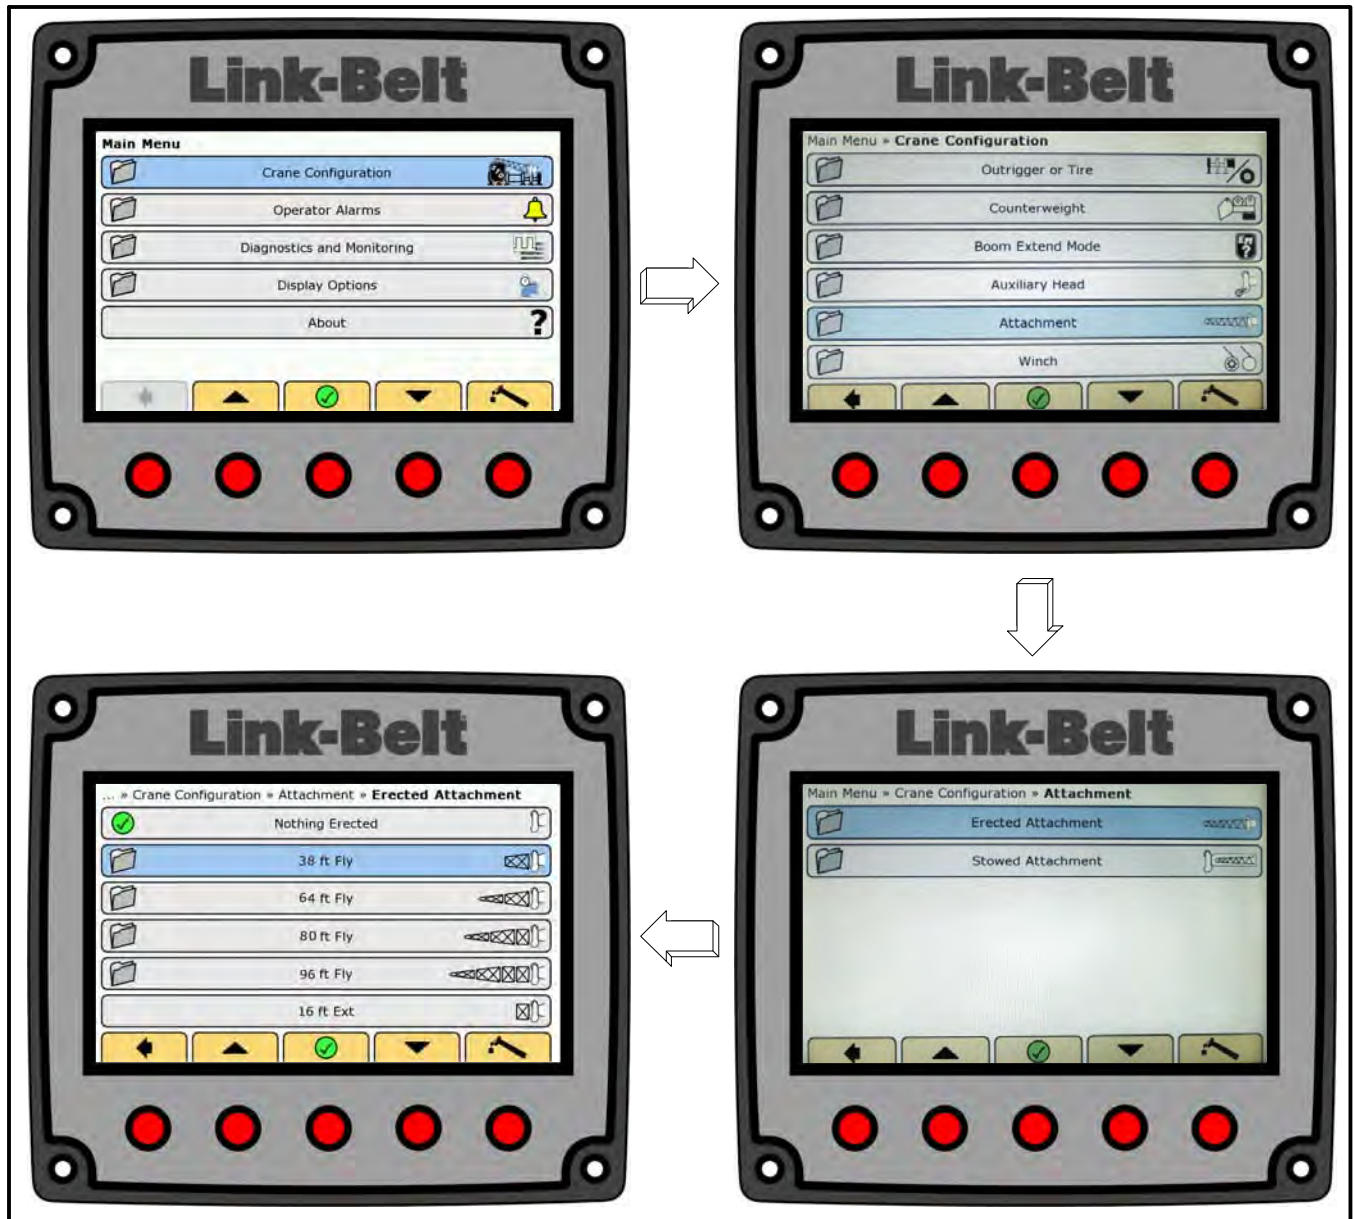

Figure 1–81
15. On the Crane Configuration menu, scroll to Attachment, and press the OK/Enter button (✓). Refer to Figure 1–81.